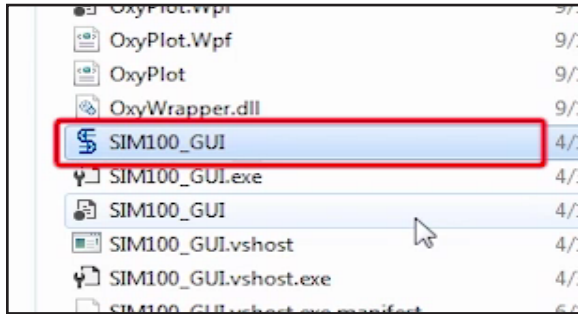

Figure 8: SIM100 GUI executable file
4. Double click on the GUI (graphic user interface) executable called SIM100_GUI.exe (this should be the only file with the Sendyne logo as an icon). The SIM100_GUI.exe should not be moved outside of the folder (see fig. 8).